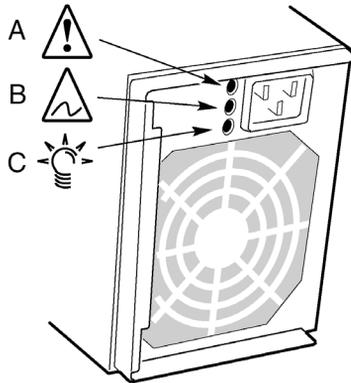

Figure 44 - Power supply LED status indicators
- 5 Slide the battery in the direction shown in Figure 44, allowing the battery to pop up.